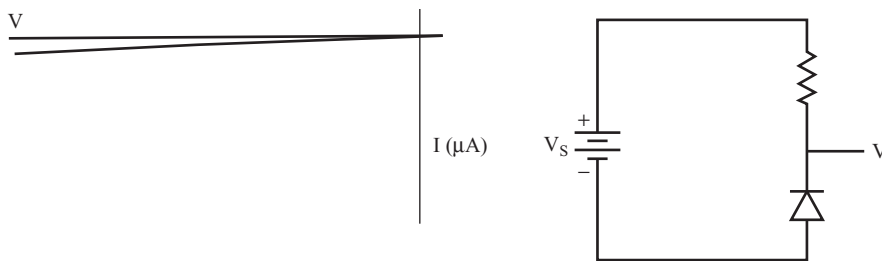

FIGURE 2.23
**22** Earlier, you read that if the circuit in Project 2.1 was not working correctly, then the diode may be in backward. If you place the diode in the circuit backward—as shown on the right in Figure 2.23—then almost no current flows. In fact, the current flow is so small, it can be said that no current flows. The V-I curve for a reversed diode looks like the one shown on the left in Figure 2.23.